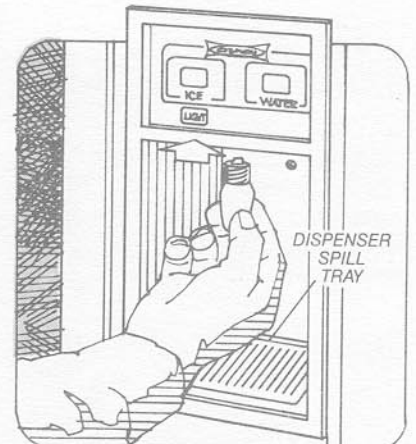

Figure 17
The door dispenser light switch is located in the upper left hand portion of the water and ice dispenser glasswell. Depress the light switch to turn the dispensing light on and off. **NOTE:** In the off mode the light will activate when either the water or ice switch is depressed. The light bulb can easily be replaced with a 7 watt appliance bulb. See Figure 17. **NOTE: Dispenser light will remain on for 5 seconds after dispenser switch is released.**
At the bottom of the water and ice dispenser, there is a spill tray assembly. This tray will catch and evaporate small spills. **NOTE: There is no drain in this area; therefore do not pour water into the spill tray.** See Figure 17. To clean this area, depress the front left corner of the spill plate and it can easily be removed.
**590 Glasswell cleaning:** Wipe up spills after removing dispenser spill tray. See Figure 17. Clean with a mild solution of soap and water to which a small amount of baking soda has been added.